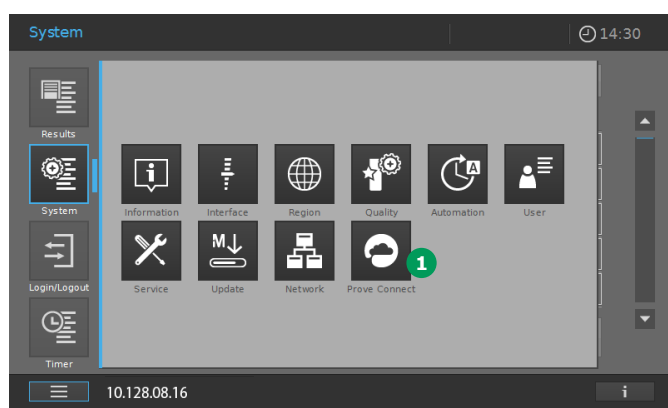

Figure 16 - Screen of Spectroquant® Prove after clicking on "System"
1. Enable Prove Connect in the Prove System menu 1 (Figure 16).